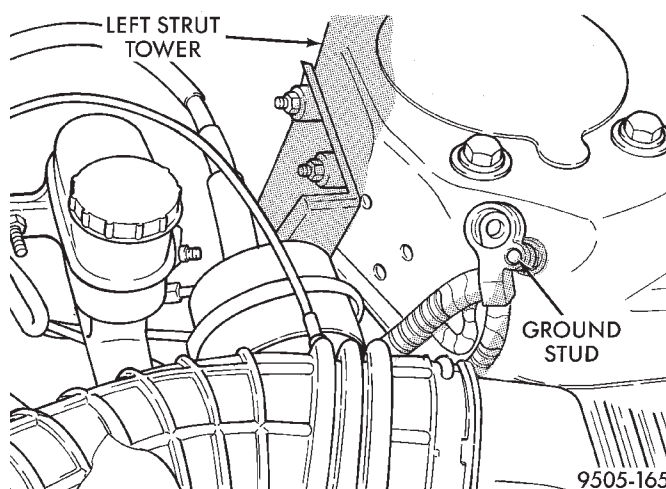

Fig. 104 Correctly Isolated Remote Ground Cable
- (2) Correctly isolate remote ground cable when servicing vehicle by installing the ground cable insulator on the strut tower ground stud as shown (Fig. 104). **This will prevent accidental grounding of the remote ground cable.**